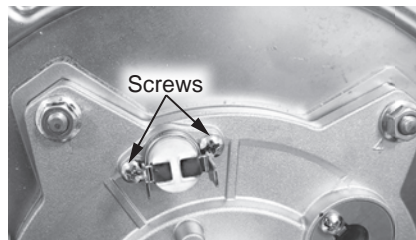

Figure 24 - Hi-Limit screw removal
5 Use a Phillips screwdriver to remove the two (2) screws securing burner door hi-limit to the burner assembly. Place screws aside in a safe place for reinstallation. See Figure 24.